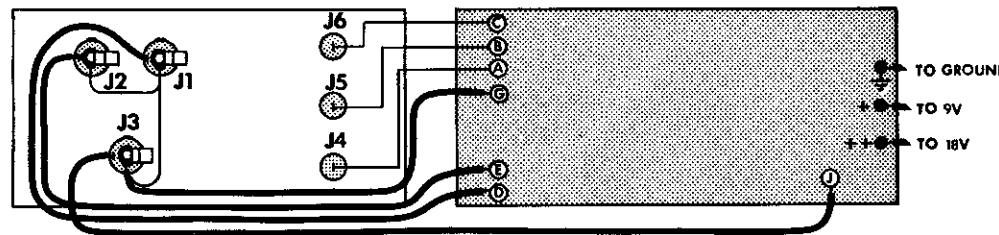
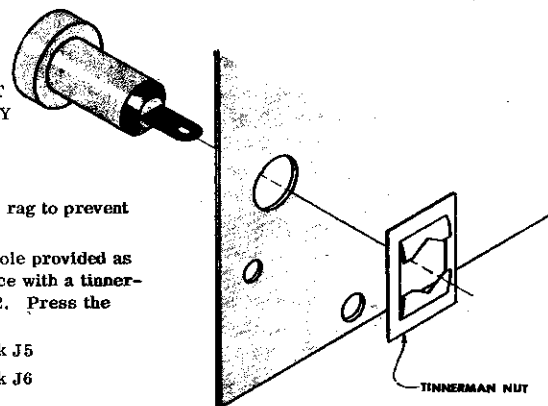

Figure 3
Figure 2
- () Place a black pin jack (J4) in the hole provided as shown in figure 3 and fasten in place with a tinnerman nut as shown in detail figure 2. Press the tinnerman nut down firmly.
- () Mount the miniature phone jack (J1) to the front panel in the position shown in figure 3. Orient the jack as shown and fasten it in place with the nut provided. Carefully tighten the nut by putting the points of the jaws of a pair of small diagonal cutters into the notches in the nut and using the cutters as a spanner.
- () Using the bare wire provided make the common connections to the left hand lugs of J1, J2 and J3 as shown in figure 3. Do not solder the connection at J3.
- () Connect and solder the wire coming from circuit board point "D" to the uppermost lug on miniature phone jack J1 as shown in figure 3.
- () Connect and solder the wire coming from circuit board point "E" to the uppermost lug on miniature phone jack J2 as shown in figure 3.
- () Connect and solder the wire coming from circuit board point "J" to the uppermost lug on miniature phone jack J3 as shown in figure 3.
- () Connect the wire coming from circuit board point "G" to the left hand lug of miniature phone jack J3 as shown in figure 3. Solder both wires connected to this lug.